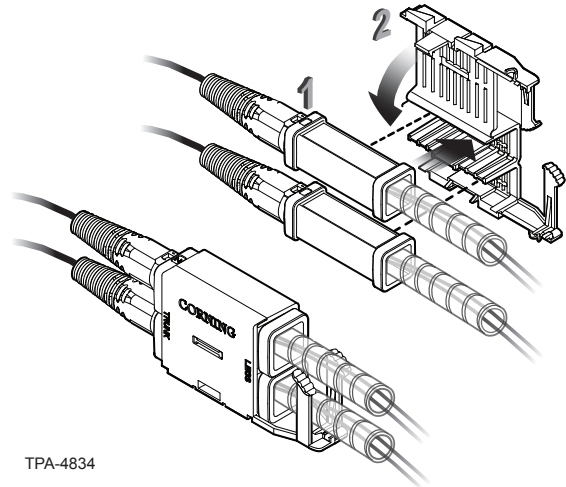
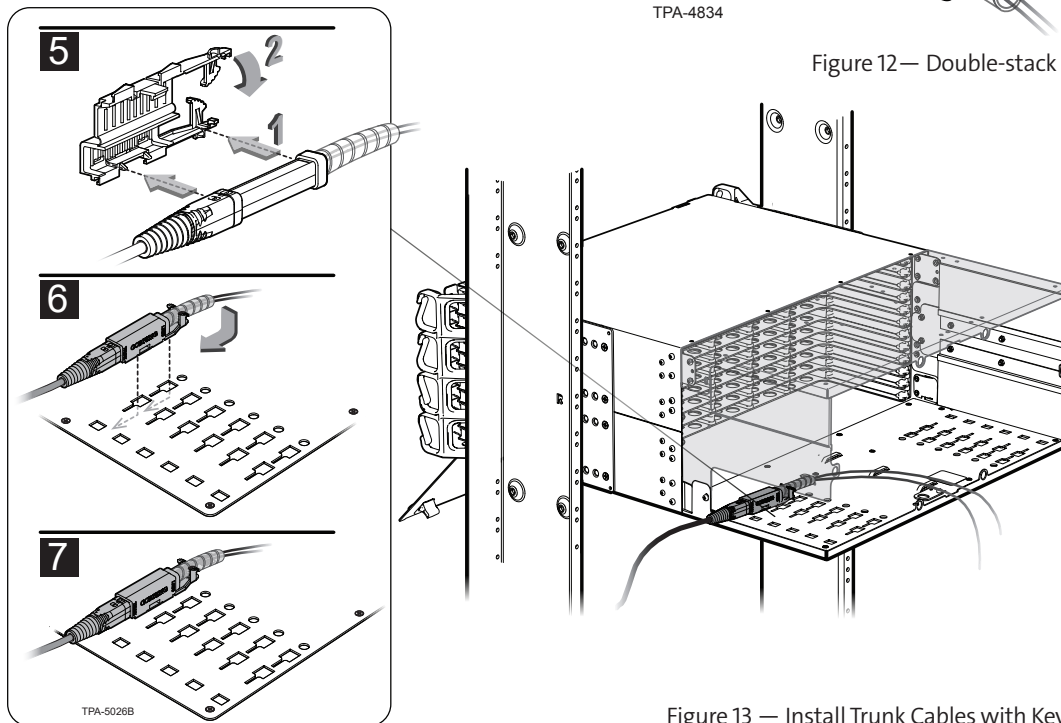

Figure 12 — Double-stack Keyhole Cradle
Figure 13 — Install Trunk Cables with Keyhole Cradle
Step 3: Insert furcation plug into cradle as seen in Figure 12 or Figure 13 and mount cradle onto CDF bracket (Figure 11).
Step 2: Open cradle provided inside the reel and press each trunk cable furcation plug into cradle (Figure 12 - double-stack cradle or Figure 13 - single-stack cradle).
NOTE: One double-stack cradle (shown in Figure 12) is provided with the trunk cable.